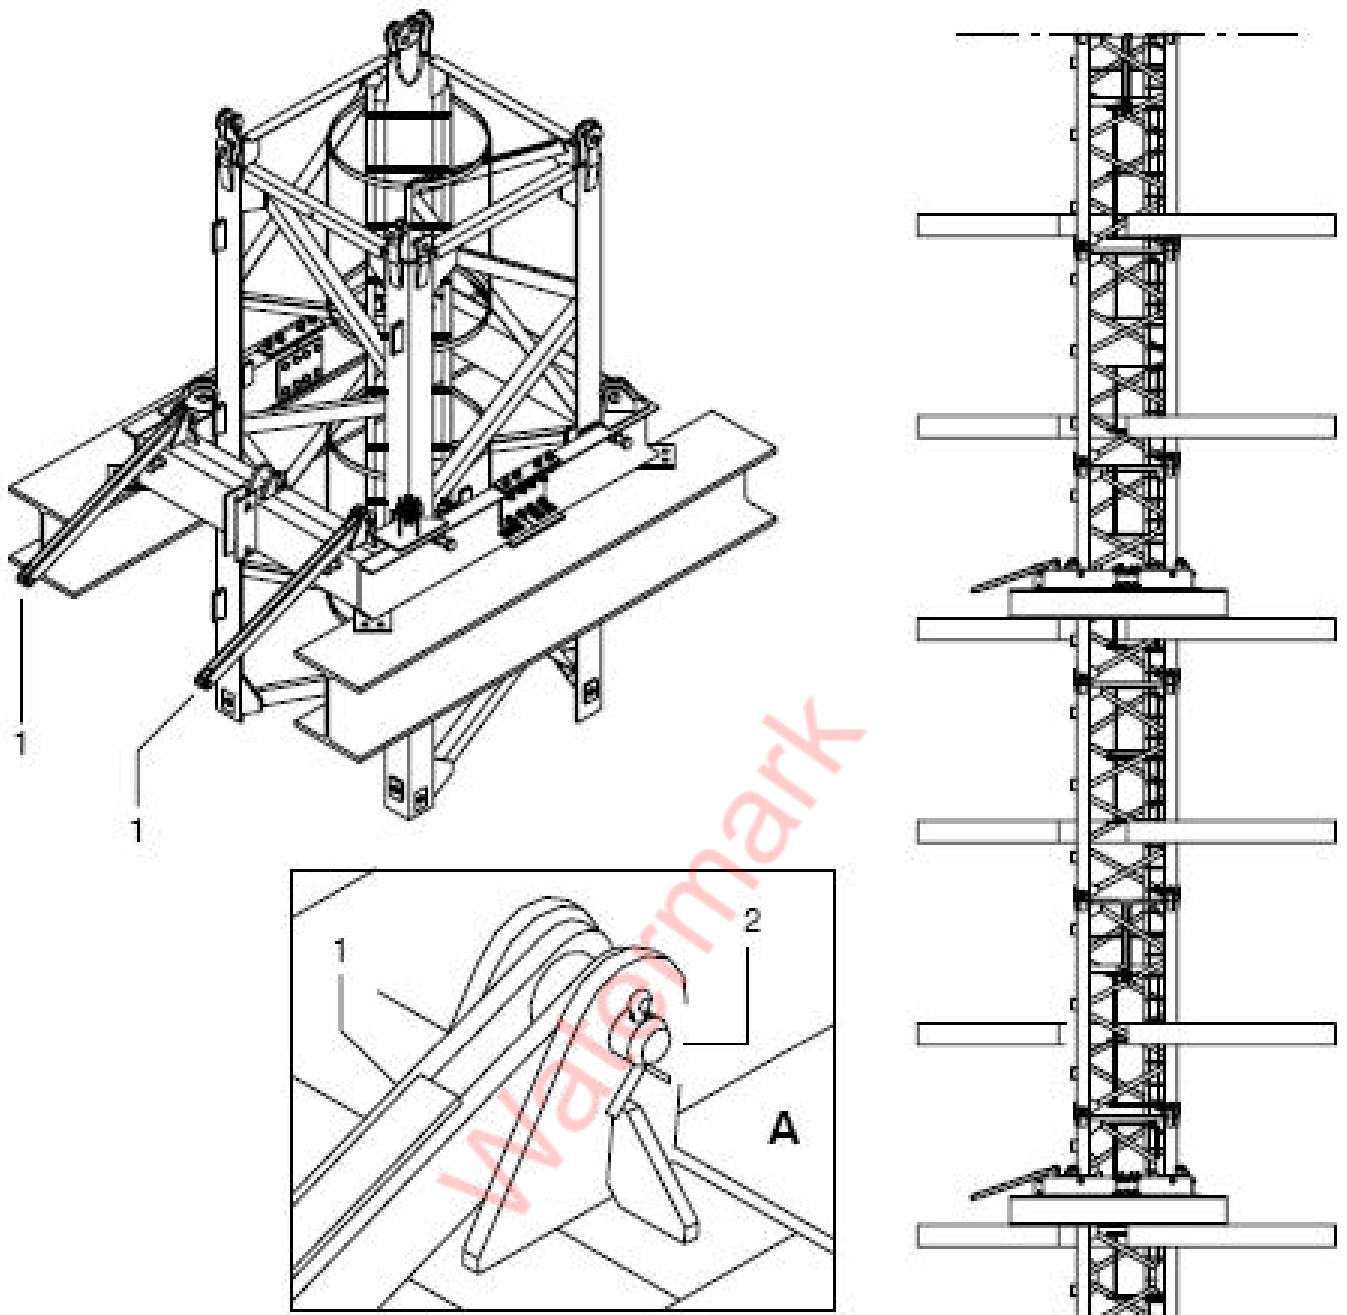

Figure 3
_ Fit onto each collar the links (1) by means of the shafts (2) and fix with split pins (Detail A – Figure 3).